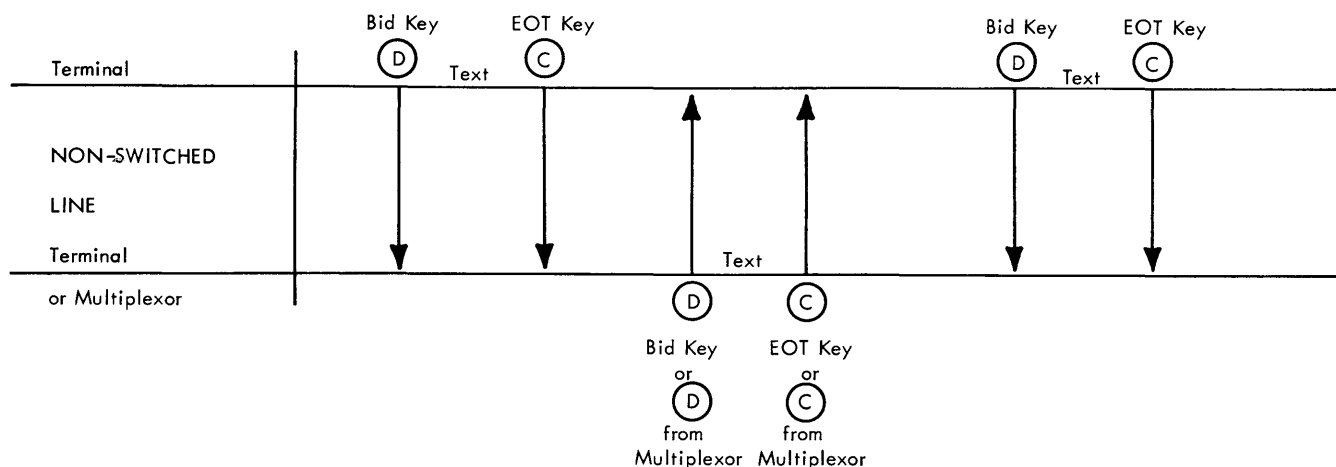

Figure 5. Point-to-Point Operation (No Special Features)
This section covers the operation of the basic IBM 2740 Communication Terminal Model 1, without any special features, and then with special features installed. The communication line operations required for each are shown in Figures 5 through 15. A detailed description of operating procedures is included in the IBM 2740/2741 Communication Terminal--Operators Guide, Form A27-3001.
This operation is performed on a contention basis, which means that both terminal operators independently attempt to acquire the line by pressing the Bid key (Figure 5). The first terminal acquiring the line retains control of this line until its EOT key is pressed. (Refer to Transmission Controls and Indicators, Model 1 in this section of manual, for a complete explanation of these keys.) When a terminal acquires the line, the other terminal automatically switches to a receive status and its keyboard is locked. This terminal remains in the receive status until an EOT code is received.
- Press the Bid key. This transmits a (D) signal to the other terminal on the line (Figures 5 and 6). Upon receipt of the (D) signal, the receiving terminal automatically switches to receive status provided the terminal was originally in standby status. This change to receive status causes the keyboard to remain locked and the terminal motor to be turned on. If this terminal is operating in local mode or is not in standby status when the (D) signal is received, an audible alarm is automatically sounded at the terminal.
- Receipt of the (D) signal switches this terminal to receive status (Receive light on, keyboard locked, and motor turned on). The terminal remains in this status until an EOT signal is received (see Figures 5 and 6). However, if this terminal runs out of paper while receiving, or drops status for any other reason, it switches to a no status condition (all status lights off, keyboard locked, and still in communicate mode). Until this condition is corrected (by inserting paper or deactivating the paper presence contact) and the line connection is re-established, the terminal is unable to receive any further transmissions. Thus, a procedural requirement providing for message retransmission when this occurs should be established for each system.
- If this terminal is in the local mode or is in communicate mode but out of paper when the (D) signal is received, an alarm sounds at this terminal. The operator should now switch to the communicate mode (by positioning the Communicate/Local key to Com), or insert paper (or deactivate the paper-presence contact). Message reception is not possible until this is accomplished.
Press the Bid key. This transmits a (D) signal to the multiplexer (Figures 5 and 6). This signal causes the multiplexer to automatically switch to a receive status. Once the terminal acquires the line through use of the Bid key, it automatically switches to a transmit status. In conjunction with this, the transmit light is turned on, the keyboard is unlocked to permit the transmission of text, and the terminal motor is turned on. The terminal can now transmit a message (or messages) of any length and retain control of the line until it transmits an EOT (C) signal. Press the EOT key. This transmits a (C) signal to the multiplexer and places the terminal in a standby status. The Standby light at the terminal is turned on, the keyboard is locked (except for the Bid key and EOT key), and the motor is turned off.
The multiplexer initiates a transmission by placing a (D) signal on the communication line, which causes the terminal to switch from a standby status to a receive status (Figures 5 and 6). The Standby light turns off, the Receive light turns on, the keyboard is locked, and the terminal motor is turned on.
Press Data button on terminal data set and place receiver in cradle. The Dial-Connect light will be on indicating the line is connected and the terminal is in a standby status. From this point on, the operation of the terminal is the same as a terminal-to-multiplexer operation without the dial-up feature (see "Point-to-Point Operation--Multiplexer and Terminal" in this section of manual and Figures 5 and 6). While the terminal is in a receive or transmit status the Dial-Connect light is off, even though the line is still connected. The light turns on again when the terminal switches to a standby status.